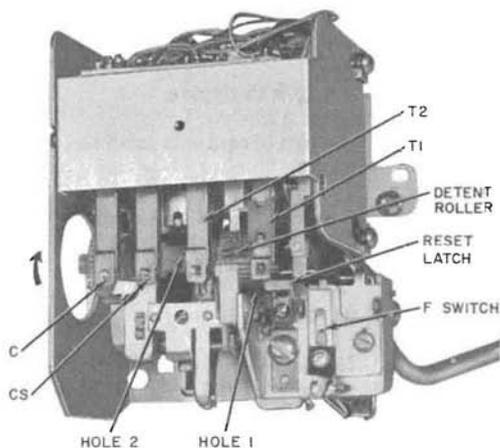

Fig. 4—Checking Totalizer Rate
Use extreme care when checking initial rate or resetting totalizer. Avoid damaging pawl and spring pile-ups. Do not attempt to turn totalizer cam shaft in direction opposite to that shown in Fig. 4.
- (1) Remove 1A10A chute-totalizer per 2.08.
- (2) Loosen screw and remove transparent dust cover.
- (3) Rotate shaft in the proper direction (Fig. 4) until detent roller on inside ratchet wheel is positioned between the two black marks. This occurs at the same time T2 rests in depression in shaft. This position is called *home* position.
- (4) Slowly rotate shaft in proper direction, and count the steps until T1 springs operate.
- (5) Each step rotated from *home position* represents a 5-cent rate as shown in Table C.
- (1) Rotate shaft in proper direction (Fig. 4) until it is in home position as described in 2.10(3).